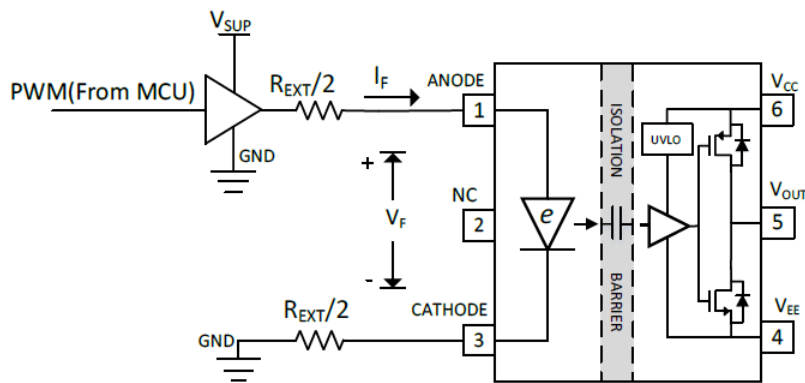
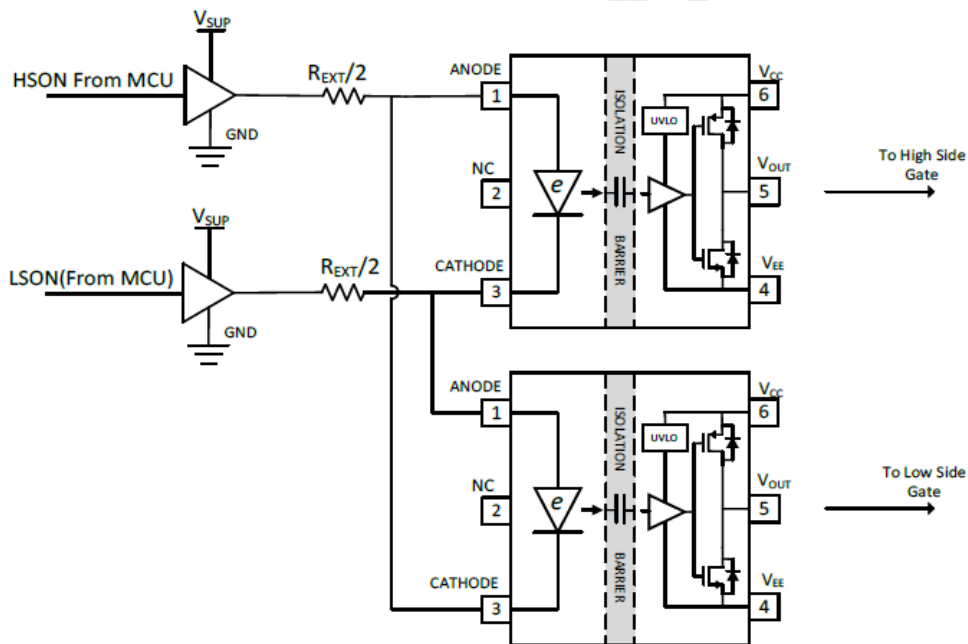

Figure 3-2. Typical Application Circuit with One Buffer Driving Input Stage
Figure 3-3. Interlock Protection using CMT8603X
CMT8603X requires 7mA to 16mA bias current that flows into the e-diode for normal operation. The PWM from MCU is not suitable to provide such current directly and external circuit is needed. In Figure 3-1, one NMOS is used with split input resistors. Another input drive method is using one buffer, as shown in Figure 3-2.
For applications to drive power transistors in half bridge configuration, two CMT8603X can be used. Interlock protection is possible as shown in Figure 3-3. If the controller has some mistake, leading to negative dead time, the output PWM of CMT8603X is adjusted to avoid power transistor shoot through. The input side reverse breakdown voltage of CMT8603X is greater than 6.5V, which supports interlock protection of 3.3V or 5V PWM signal source.
The recommended forward current range for CMT8603X is 7mA to 16mA. The value of input resistor, buffer supply voltage and buffer internal resistance influence the forward current, as shown in Equation (1). In Figure 3-1,  $R_{Buffer}$  is the on-resistance of the external NMOS. In Figure 3-2,  $R_{Buffer}$  is the buffer output impedance in output “High” state. In Figure 3-3,  $R_{Buffer}$  is the summary of buffer output impedance in “High” and “Low” state.